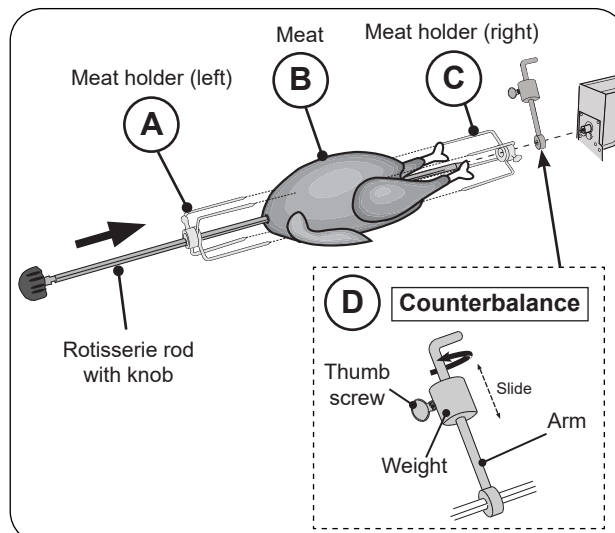

Fig. 38-3 Assemble rotisserie rod for cooking
4. Slide the left meat holder onto the rod and tighten (see Fig. 38-3, A).
5. Then slide meat onto the rod, followed by the right meat holder (see Fig. 38-3, B and C).
8. The counterbalance may then be attached to even weight distribution. Slide the counterbalance onto the rod next to the right meat holder (see Fig. 38-3, D). Loosen the arm and point it upward opposite the heavy side of the meat. Tighten the arm.
9. Slide the counterbalance weight up or down the arm until the rod rotates most evenly then tighten thumb screw (see Fig. 38-3, D).